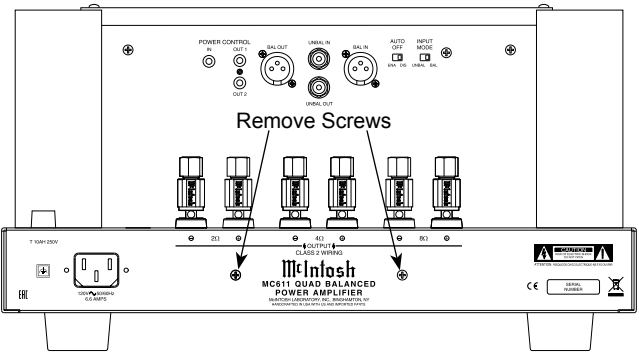

Figure 1
- 3. Using a suitable tool remove the two screws from the MC611 Rear Panel and temporarily place them in a safe place. Refer to figure 1.